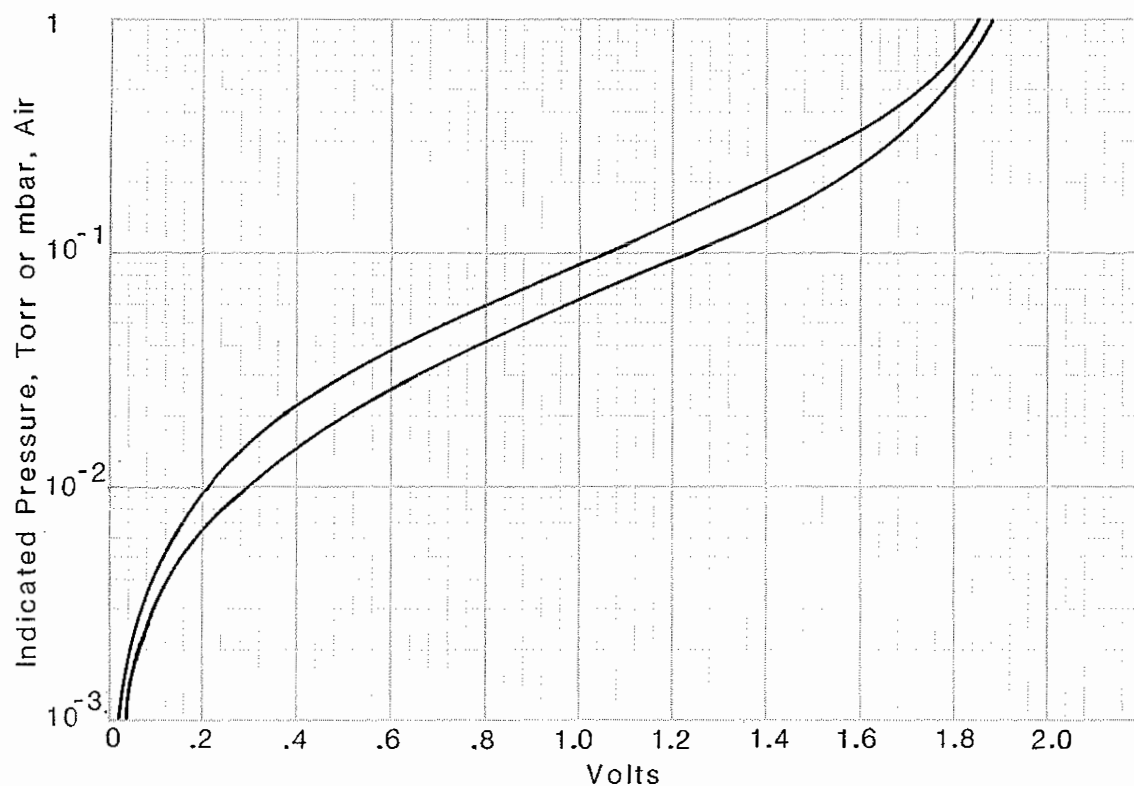

FIG. 4-4 THERMOCOUPLE GAUGE RECORDER OUTPUT
1. Thermocouple - The output of both TC's is available at the TC accessory connector (refer to Section 2 for pin information). This is a 0-2V dc signal corresponding to the meter scale with a source impedance of 1860 ohms. This allows a remote thermocouple meter (see parts list) to be directly driven if remote indication is desired. A graphical plot of output voltage versus pressure is shown in Fig. 4-4.